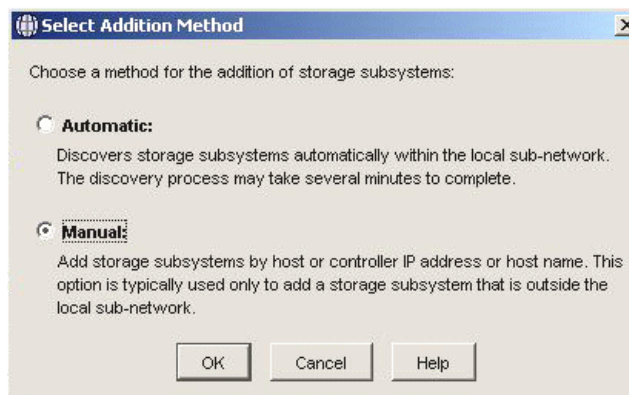

Figure 9-33 Select Addition Method window
2. Under Initial Setup, click **Add Storage Subsystems**. You will see a window similar to Figure 9-33.